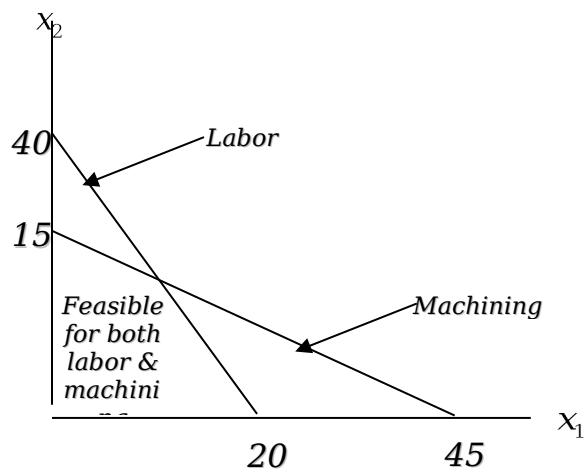

Fig 3.4
4. Add the line to the graph (See figure 3.4)